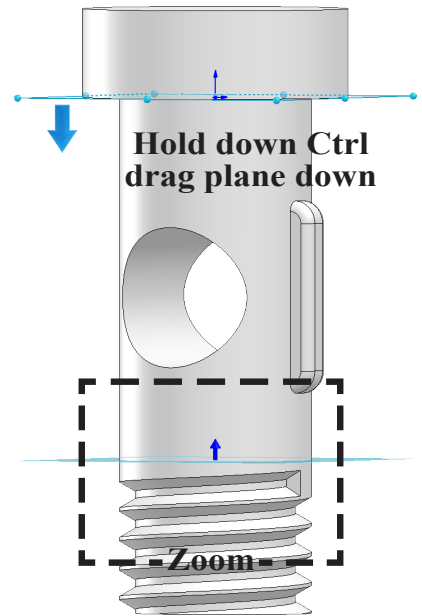

Fig. 42
Step 3. In graphics area **Ctrl drag Top plane down** to approximately top of threads and release, **Fig. 42.**
Step 4. Zoom in on top of threads, **Fig. 42.**